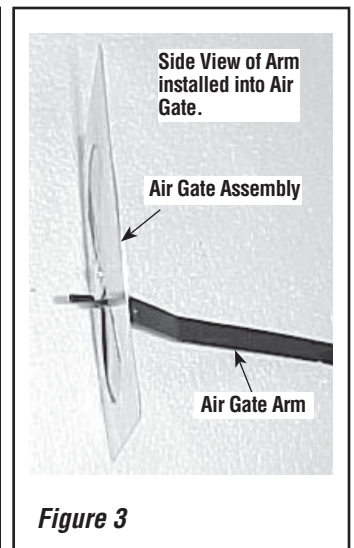

Figure 3
2. Assemble the Air Gate as shown in **Figures 3 & 4**.